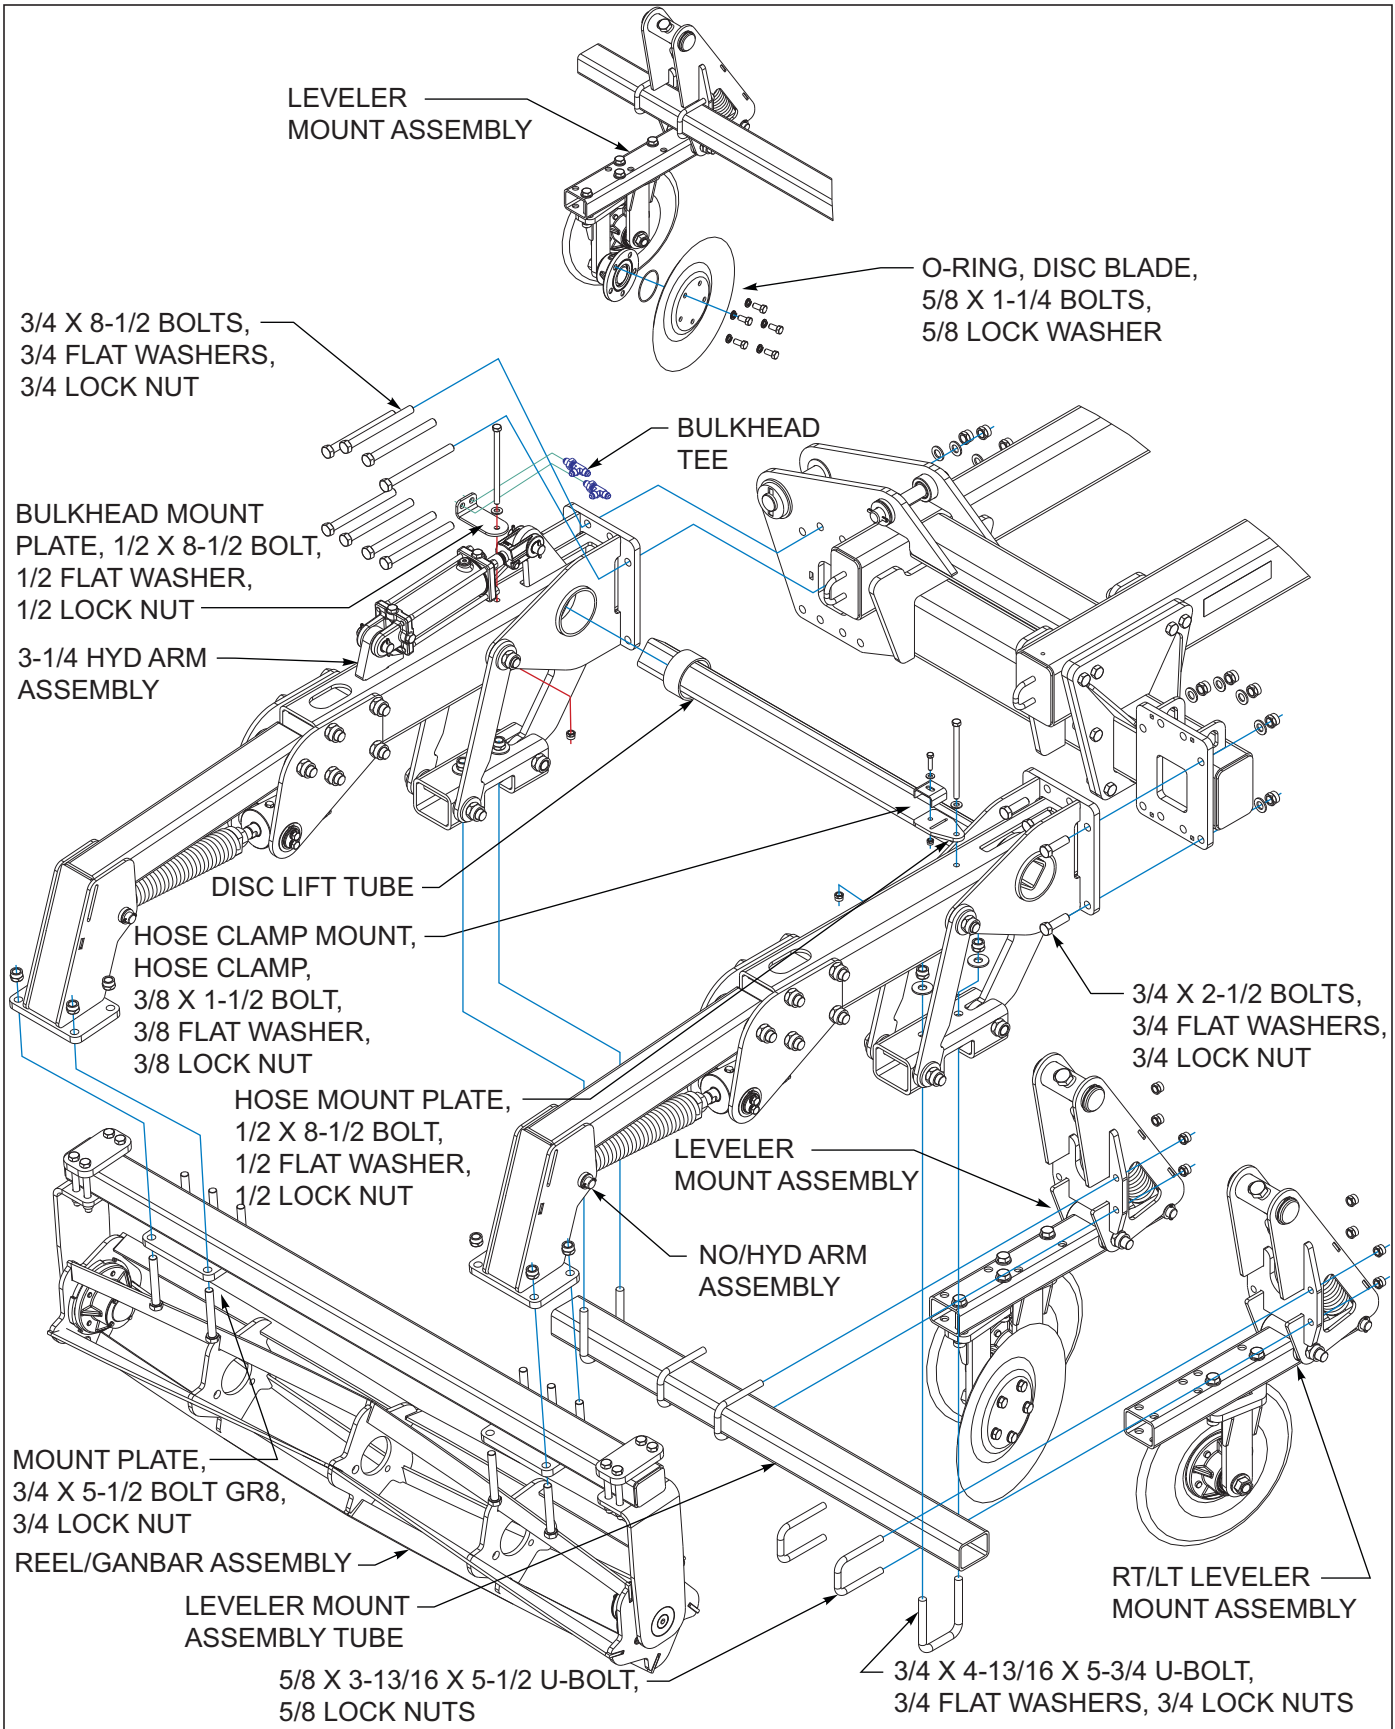

Figure 3-50: Disc Lev/Hyd RL Installation (Option)
1. Starting at the rear of the center frame, attach one of the hydraulic arm assemblies with a 3-1/2 x 8 cylinder using 3/4 x 2-1/2 bolts, 3/4 flat washers, and 3/4 lock nuts. *See Figures 3-50* and *See Figures 2-8 through See Figures 2-10* for arm placement.
16. Install the hose mount plate to both outer no/hyd arm with 1/2 x 8-1/2 bolt, 1/2 flat washer, 1/2 lock nut. Attach hose clamp with the 3/8 x 1-1/2 bolt, the hose clamp with 3/8 x 1-1/2 bolt, 3/8 flat washer, 3/8 lock nut **See Figures 3-50.**